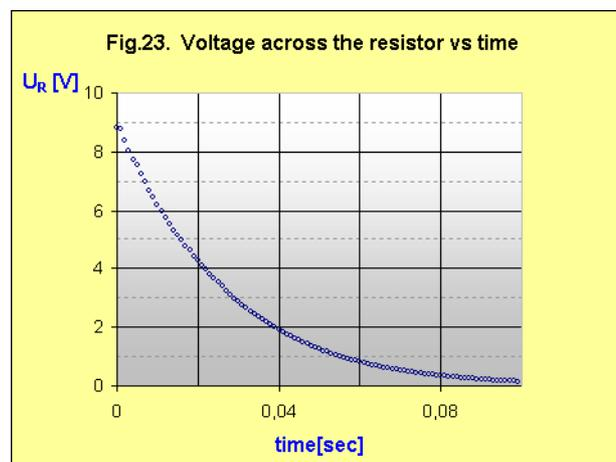

Fig.23.
- Create a spreadsheet and import the data from the files **time** and **voltage**. Make the plot $U(t)$ from the experimental data – Fig. 23. Pick up a start voltage, U_0 , record the time, (X-value).